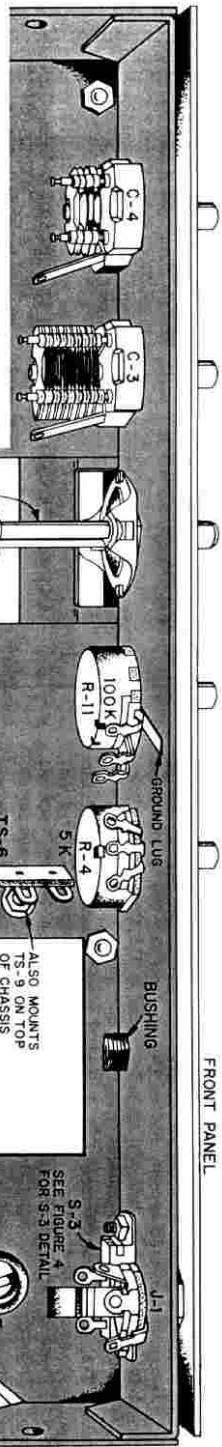

FIGURE 6.
- ☒ V-1, a 7-pin tube socket and a small tube shield base. From top of the chassis, mount the tube shield base for V-1 with two 4-40 screws as shown in Figure 6. From inside the chassis, mount V-1 on these screws, taking care to position the keyway as shown. Fasten with a lockwasher and nut on each screw.